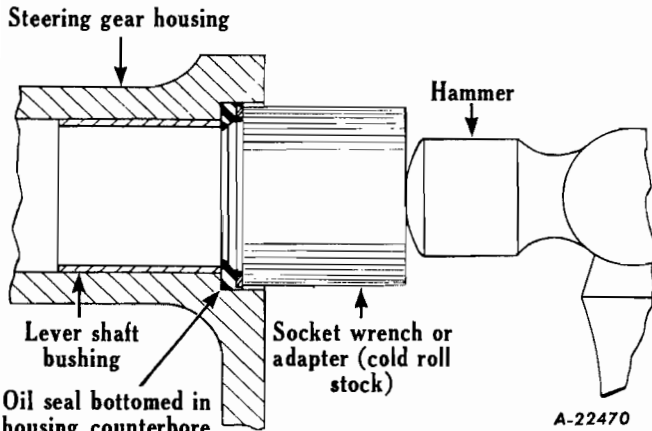

Fig. 11 - Location and installation of lever shaft oil seal
- (a) Install new lever shaft oil seal (Fig. 11).